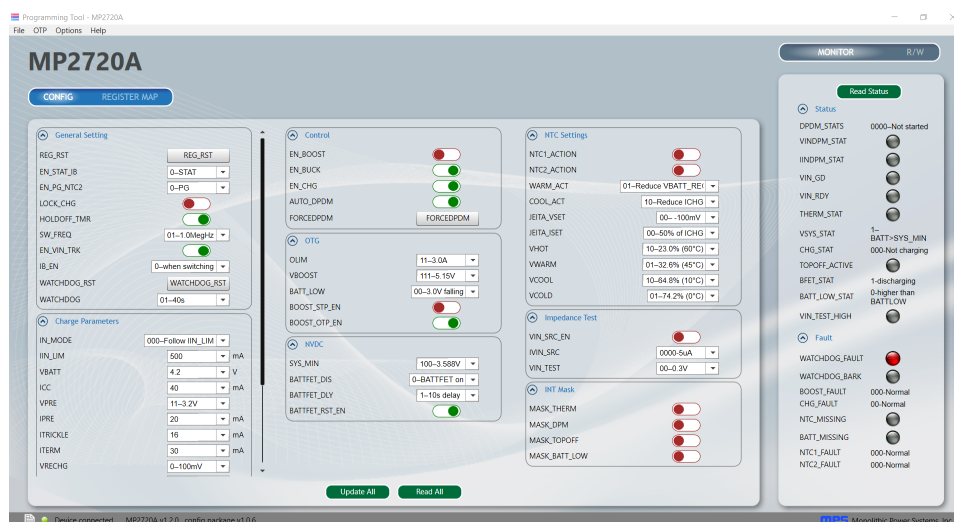

Figure 3: MP2720A Evaluation Software
9. Launch the MP2720A evaluation software. Figure 3 shows the GUI software's main window.
1. Ensure that all the connections are successful, including the connection between the USB to I²C communication interface and the EV2720A-RH-00A. Successful connections are indicated in green on the lower-left side of the window (see Figure 3 on page 3). Once all of the connections are successfully made, the program is ready to be used.